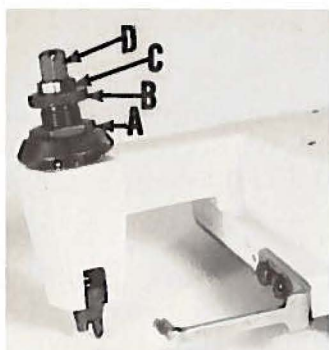

Fig. 2
Sufficient presser foot pressure to feed work uniformly should be maintained. Should it be necessary to increase or decrease amount of pressure on presser foot, loosen lock nut (A, Fig. 2) and turn adjusting screw (B). Adjusting screw has a right hand thread, so tightening increases pressure, loosening decreases pressure. When pressure adjusting screw (B) has been properly set, tighten lock nut (A). With presser foot resting on throat plate, position locking nut (C) so that its under surface is approximately  $1/32$  inch to  $1/16$  inch from the top surface of adjusting screw (B). Set cap (D) against locking nut (C).